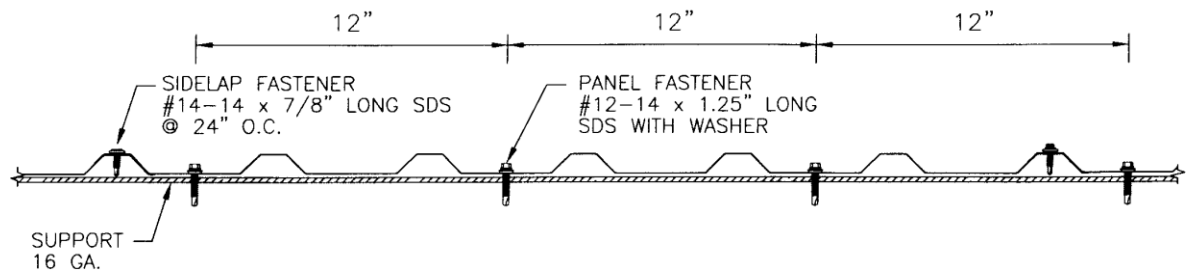

Figure 1. Minimum 26-Gauge Alliance M Panel Fastener Pattern; 12" on center
- **Attachment of Metal Panels to the Steel Purlins or Steel Girts:** Secure to the steel purlins or girts with No. 12-14 x 1-1/4" long hex head self-drilling screws with a 9/16" washer. Locate a line of fasteners along each steel purlin or girt spaced 12" on center with the fasteners located in the valleys of the panels. Use fasteners long enough to ensure a minimum penetration of 3 pitches of thread below the steel purlin or girt. Refer to Figure 1 in this evaluation report.
- **Panel Ends and End Laps to Steel Purlins or Steel Girts:** Minimum No. 12-14 x 1-1/4" hex head screws with a 9/16" washer. Locate a line of fasteners along the steel purlin or girt spaced 12" on center with the fasteners located in the valleys of the panels. Use fasteners long enough to ensure a minimum penetration of 3 pitches of thread below the steel purlin or girt. Refer to Figure 1 for an illustration of the fastener pattern.